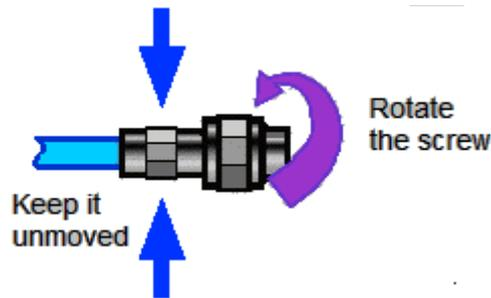

Fig. 3.4 Connection
Step 2. Move the two connectors together in parallel so that they can be joined smoothly. Rotate the connector screw (rather than the connector body) until it is tightened. The connectors should not rotate relative to each other during connection, as shown in Fig. 3.4.